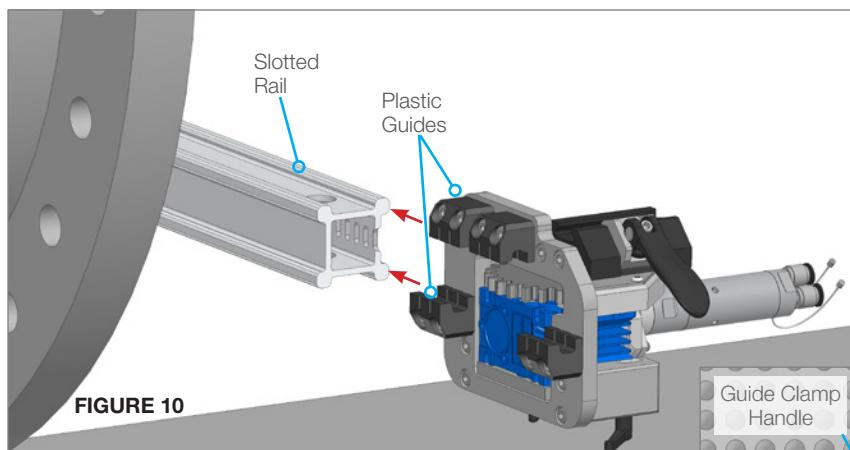

FIGURE 10
13. Orient the Linear Drive as shown in (**Figure 10**)
14. Align the bottom Plastic Guides with the Rail and slide the Linear Drive onto the Rail. (**Figures 10 & 11**)